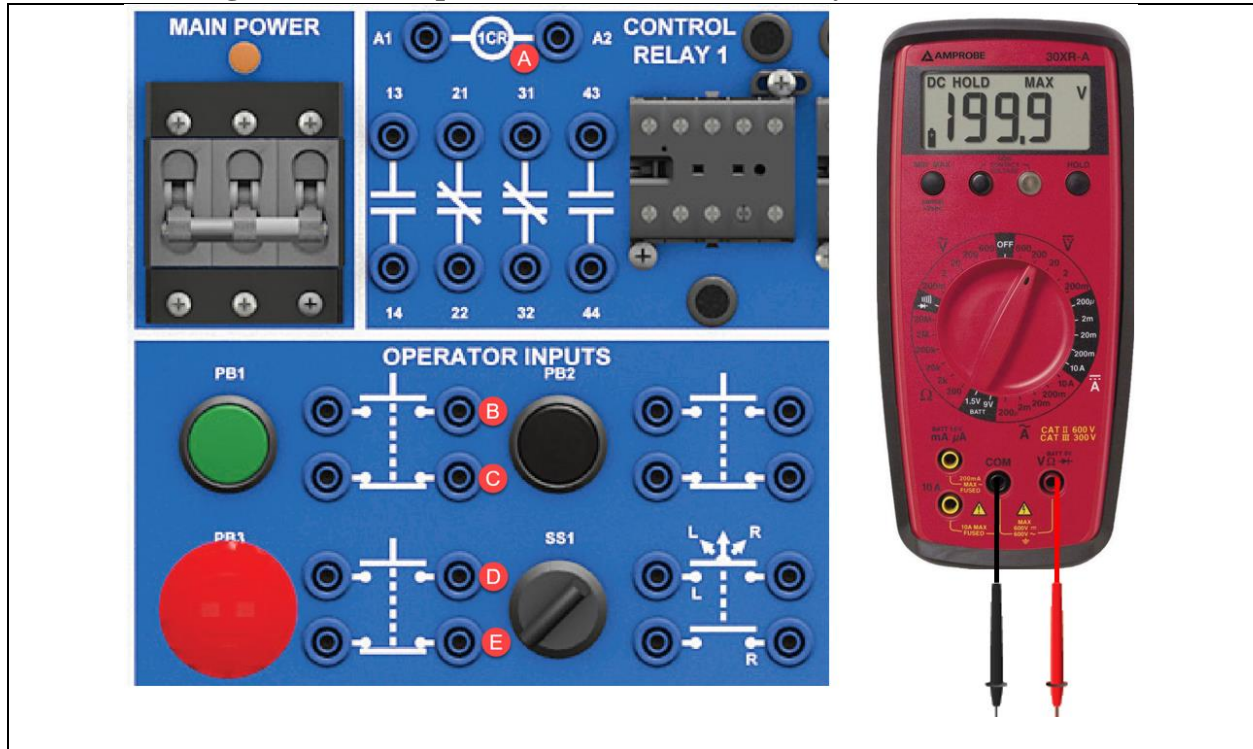

Figure 2. Measuring Resistance of electrical components.
- Figure 2 shows components marked with a red circle that the student will measure the resistive value of the component: